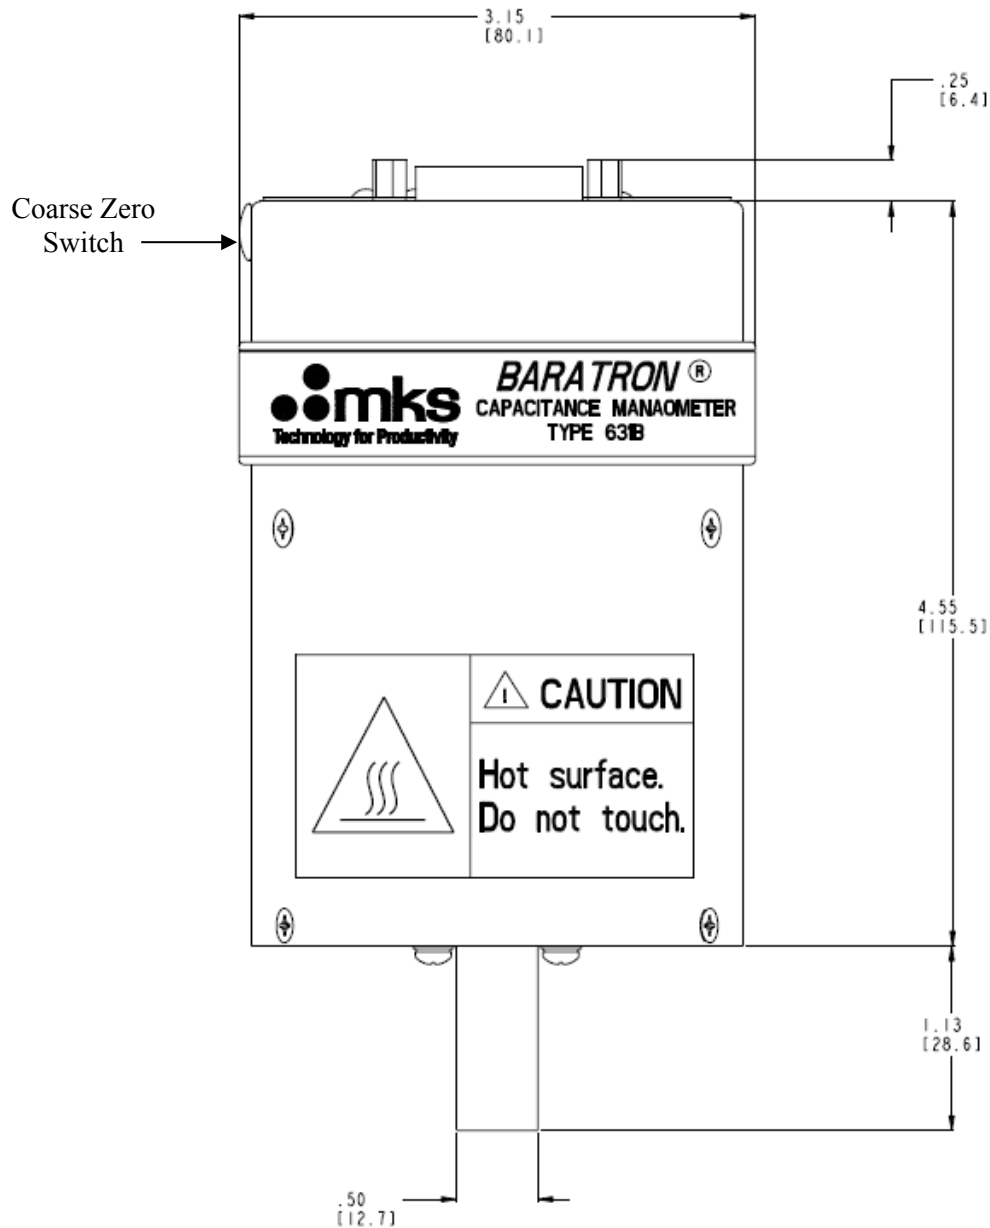

Figure 4: Dimensions of the Type 631B Transducer
5. Remove the plug that covers the COARSE ZERO switch. Refer Figure 4: Dimensions of the Type 631B Transducer, page 32.